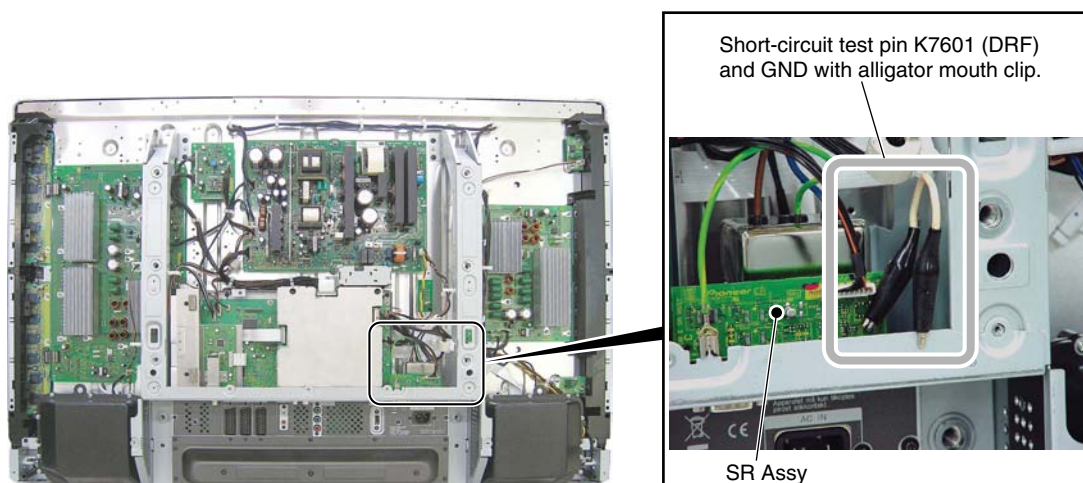

Fig. 4 Position of DRIVE OFF
1. Short-circuit the test point K7601 (DRF) of the SR Assy and GND (see Fig. 4 below).